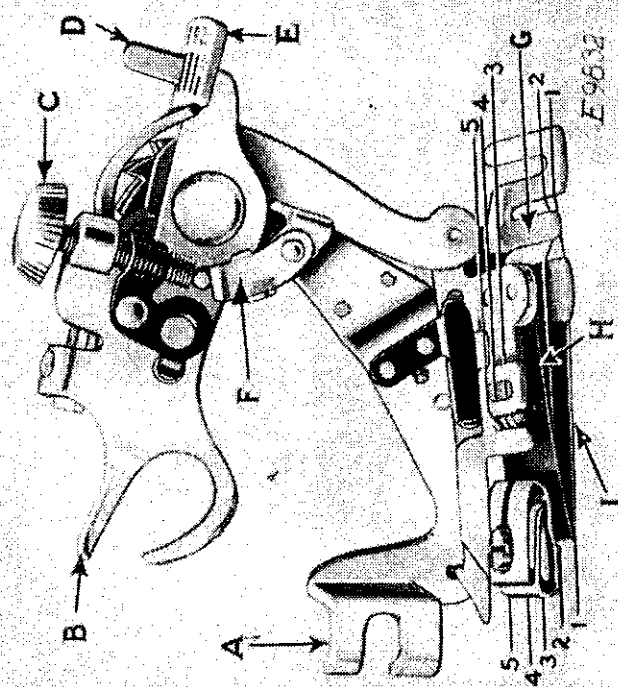
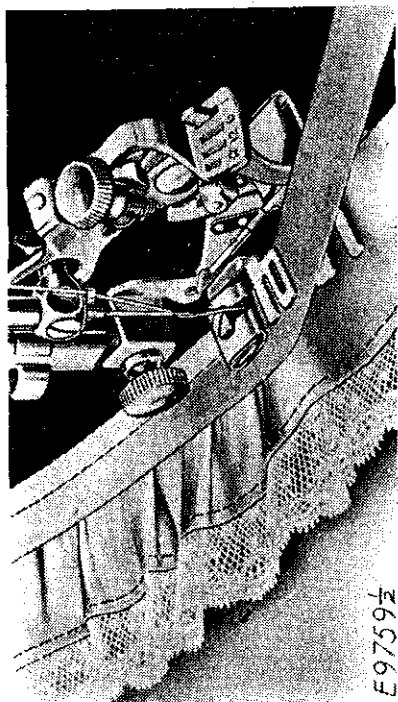

FIG. 42. THE RUFFLER AND ITS PARTS.
FIG. 45.
Lines 1, 2, 3, 4 and 5 in Fig. 42 indicate where the material is to be placed for various operations, as follows:
Refer to Fig. 42 when inserting the material in the ruffler.
The names and uses of the principal parts of the ruffler are as follows, see Fig. 42:
Raise the adjusting lever (E) and move it to the left so that the projection (D) will enter the slot marked "1" in the adjusting lever (E) when the lever is released. The ruffling blade will then move forward and back once at every stitch. Insert the material to be ruffled between the two blue blades, following the line 2 in Fig. 42. Draw the material slightly back of the needle, lower the presser bar and commence to sew.
2 (Fig. 42). Place the garment to which the ruffle is to be attached, under the separator blade, following the line 1 (Fig. 42). Proceed the same as for gathering.
Insert the material to be ruffled between the two blue blades, following the line 2 (Fig. 42). Place the garment to which the ruffle is to be attached under the separator blade, following the line 1 (Fig. 42). Place the material for the facing over the upper blue blade, as shown in Fig. 45, following the line 3 (Fig. 42). The facing may be straight or bias material. If the facing is to be on the right side of the garment, place the garment and the ruffle so that the wrong sides are together. If the
Insert the material to be ruffed between the two blue blades, following the line 2 (Fig. 42). This
The material for piping must measure about $\frac{1}{4}$ inch wide when folded in the centre and is usually cut on the bias. Place the piping material in the ruffer, following the line 4 (Fig. 42) with the folded edge of the piping to the right. The material to which the piping and ruffling are to be sewn should be folded on the edge and inserted in the ruffer, following the line 5 (Fig. 42).
marked "6" in the adjusting lever when the lever is released. The ruffing blade will then move forward and back once at every six stitches. To adjust the ruffing blade to make a plait once at every twelve stitches, place the adjusting lever (E) so that the projection (D) enters the slot marked "12" in the adjusting lever. Insert the material to be plaited between the two blue blades, following the line 2 (Fig. 42). The size or width of plaits is regulated by the adjusting screw (C) and the